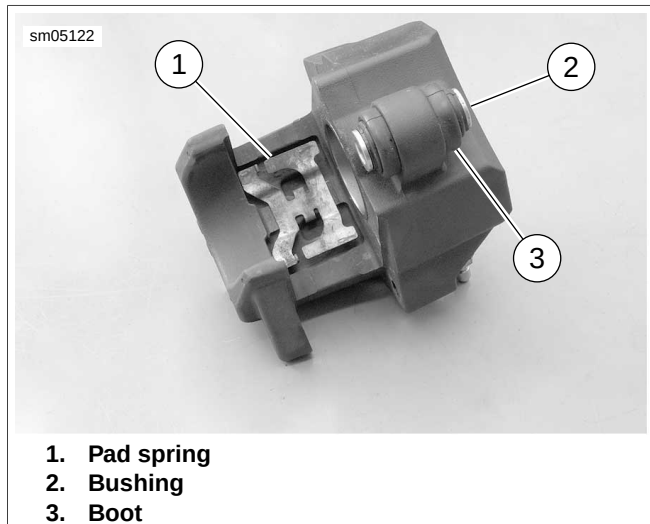

Figure 2-140. Assemble Caliper
1. See Figure 2-140. If removed, install bushing boot (3) in caliper.
2. Apply approximately 0.4 g of G40M BRAKE GREASE inside caliper bushing boot (3).
3. Insert caliper bushing (2) into boot. Ensure lips of boot are engaged in grooves at either end of bushing.
4. Install pad spring (1) in caliper housing. Ensure spring is installed in the orientation shown.